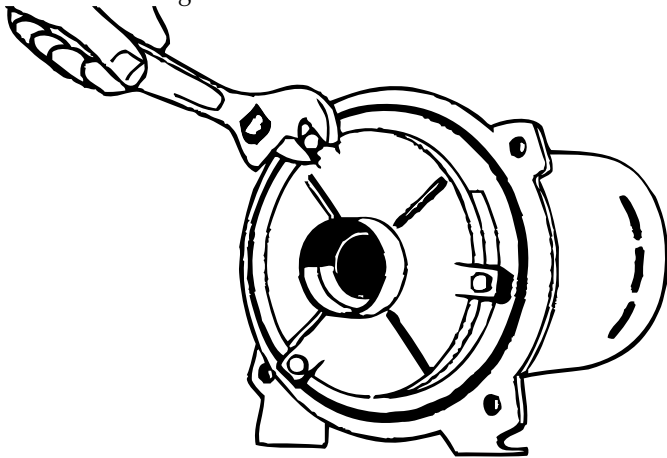

Figure 10 - Remove Diffuser Plate
4. Remove diffuser plate bolts and take off diffuser (Figure 10). When replacing diffuser, use three .010" thick shims equally spaced between impeller eye and diffuser to prevent impeller rubbing diffuser and binding.